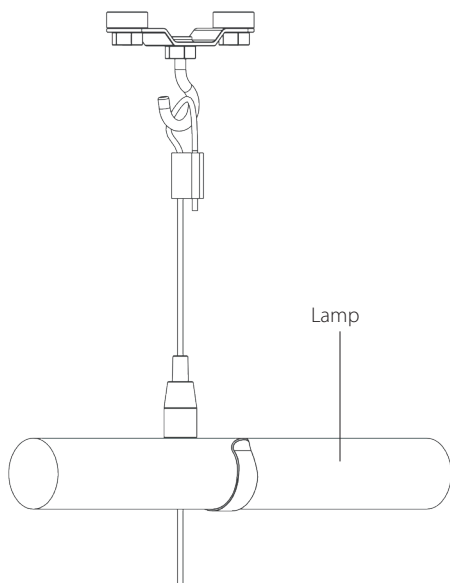

Fig.7
3. Insert the Tube Light through the **Lamp-Holding C-Clip**. (Fig.7)